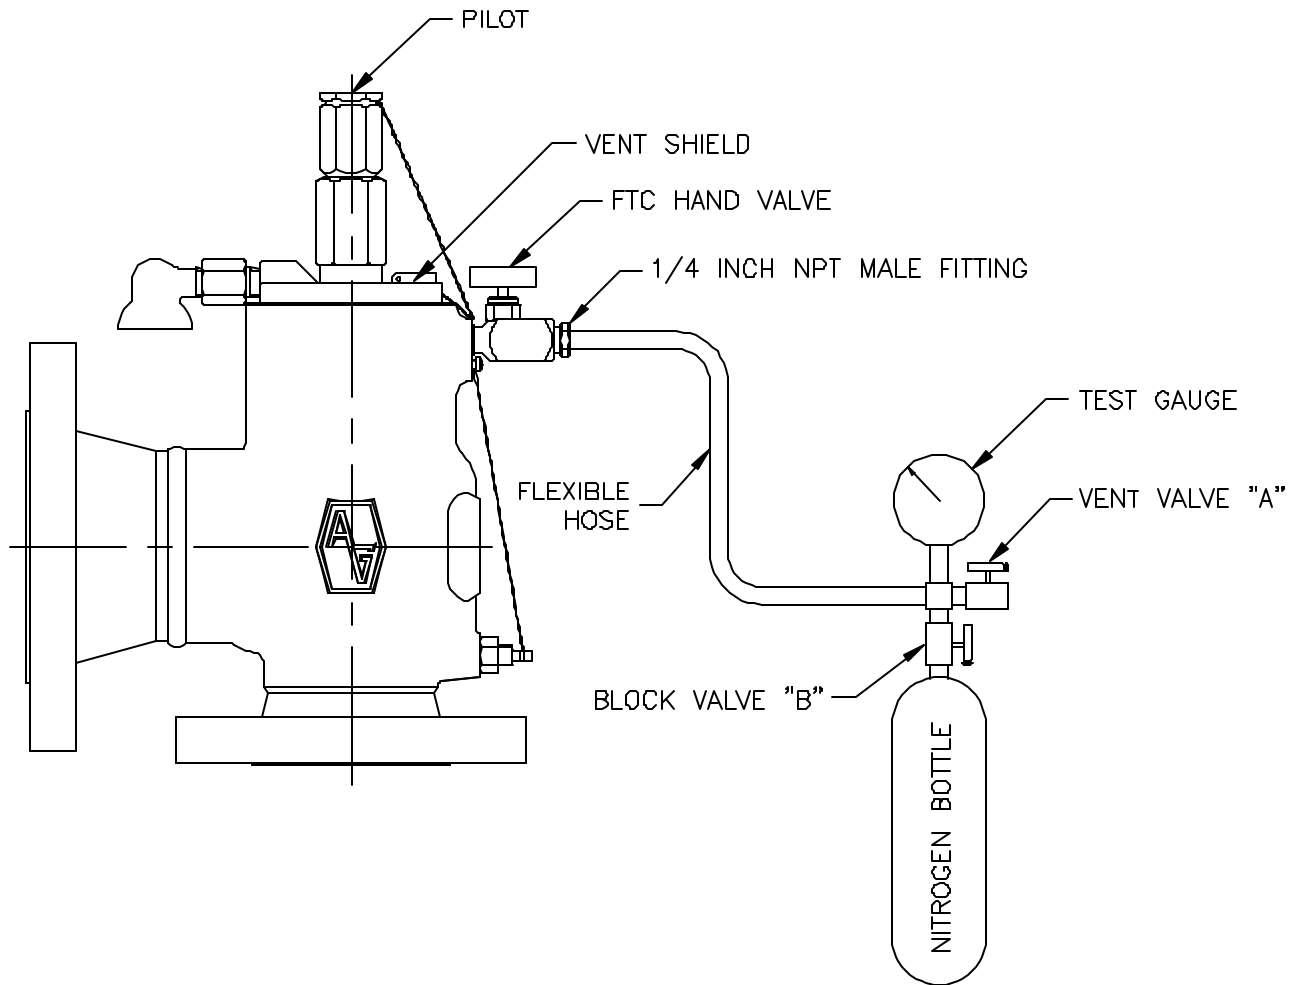

FIGURE 3
A bottle of compressed nitrogen, equipped with a pressure regulator, block and vent valves, pressure gauge, and high pressure flexible hose is recommended for testing. A set-up and test procedure similar to that shown in Figure 3 and described below should be used.
- A. Connect test gas bottle to FTC hand valve as shown in Figure 3.